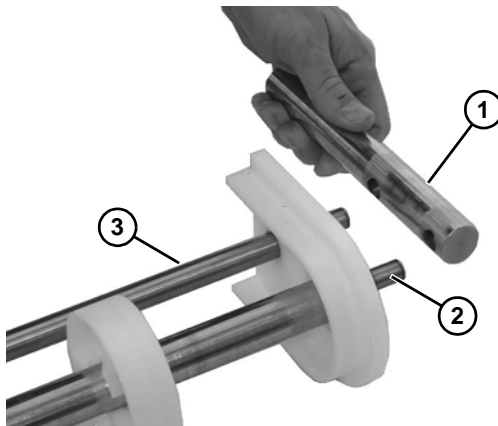

Figure 60
2. Remove the bearing end rod (**Figure 60, item 1**) from idler shaft (**Figure 60, item 2**) and pinch guard shaft (**Figure 60, item 3**).